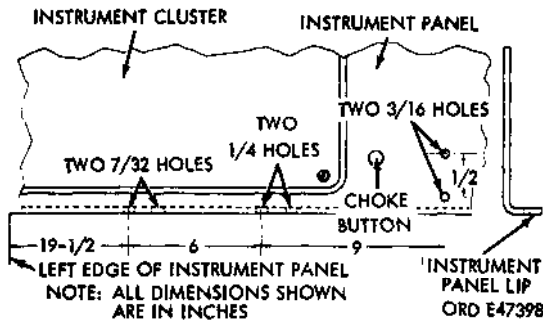

Figure 609. Layout for installing switch brackets and circuit breaker
- (3) Make a layout on instrument panel for control mounting bracket heater switch, mounting bracket and circuit breaker as shown in figure 609. Drill one hole for each bracket and circuit breaker, then mount the brackets and circuit breaker and use as a template to drill another mounting hole. Secure circuit breaker to rear side of instrument panel with No. 8 x 7/8 machine screws, lockwashers, and nuts.